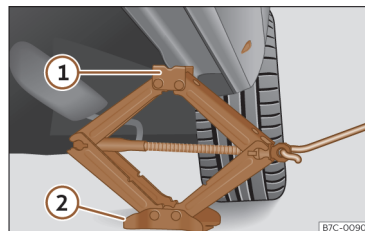

Fig. 196 Crossbar: mounting the jack on the vehicle.
- Turn the jack crank handle, located below the strut support point, to raise it until the tab **①** >>> **Fig. 196** is below the housing that is provided.
- Align the jack so that the tab **①** "grips" onto the housing provided on the cross member and the mobile base **②** is resting on the ground. The base plate **②** should fall vertically with respect to the support point **①**.